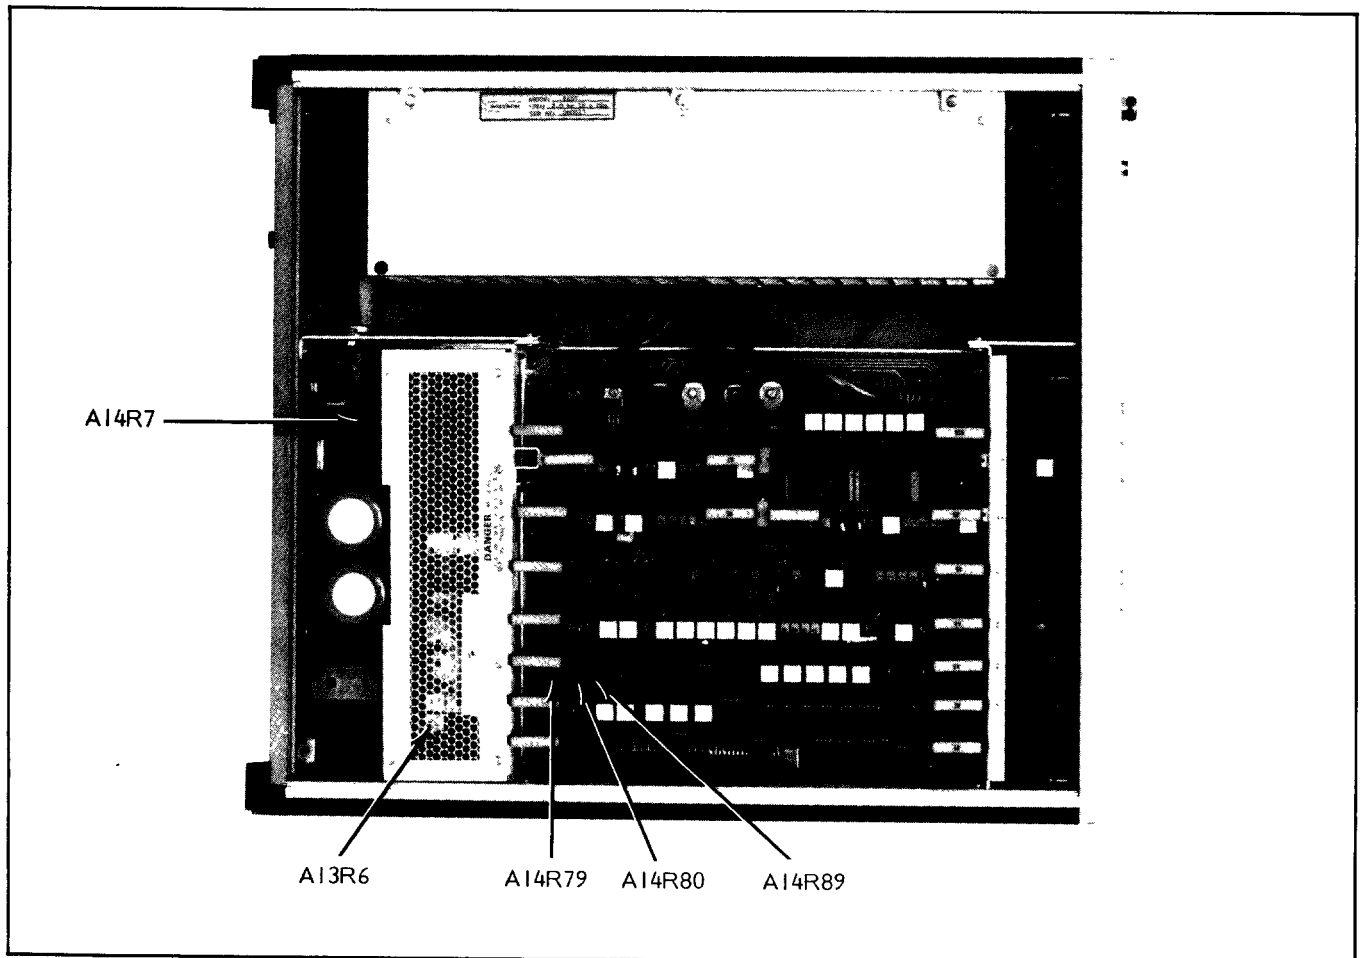

Figure 5-4. A13/A14 Power Supply Adjustments
6. Press POWER to ON, and adjust A13R6 (Figure 5-4) for approximately 5 volts.
10. Press POWER to ON and adjust A13R6 (Figure 5-4) for +5V  $\pm$  1.0mV.
2. Adjust A14R7 (Figure 5-4) for -38V  $\pm$  100mV.